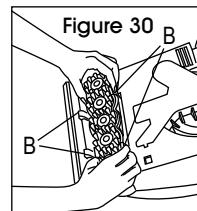

Figure 30
3. Press all four latches (B) and pull brush block out. The brushes can be cleaned under running water. (See Figure 30)